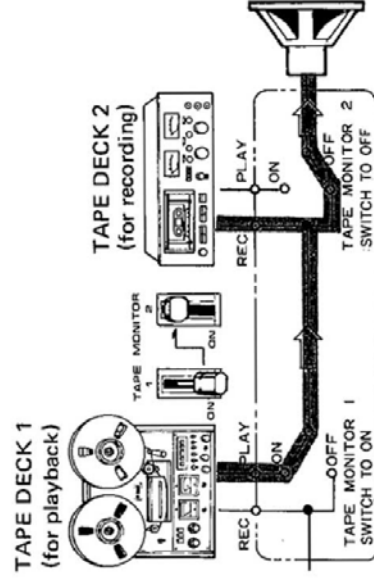

Fig. 9
1. Connect two tape decks to the **TAPE 1** and **2** jacks as shown in Fig. 9.